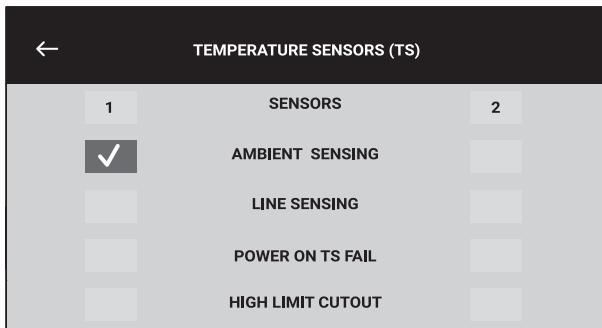

Figure 3.5 Sensor setup
Sensor setup allows user full flexibility in configuring the temperature sensors as shown in Figure 3.5 below:
**Purpose** Sensor setup allows user full flexibility in configuring the temperature sensors as shown in figure 3.5 above: